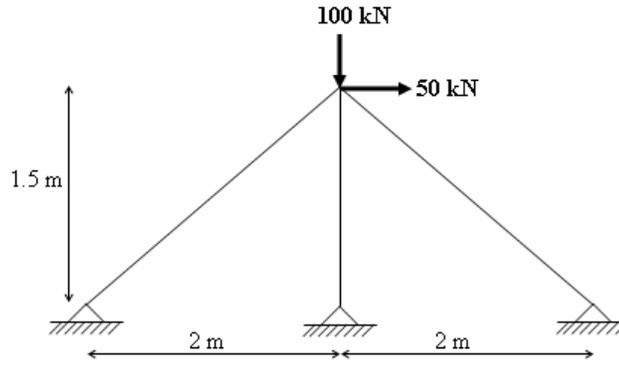

Fig. 3
5. Using flexibility method, analyze the plane truss shown in Fig.3. [16]